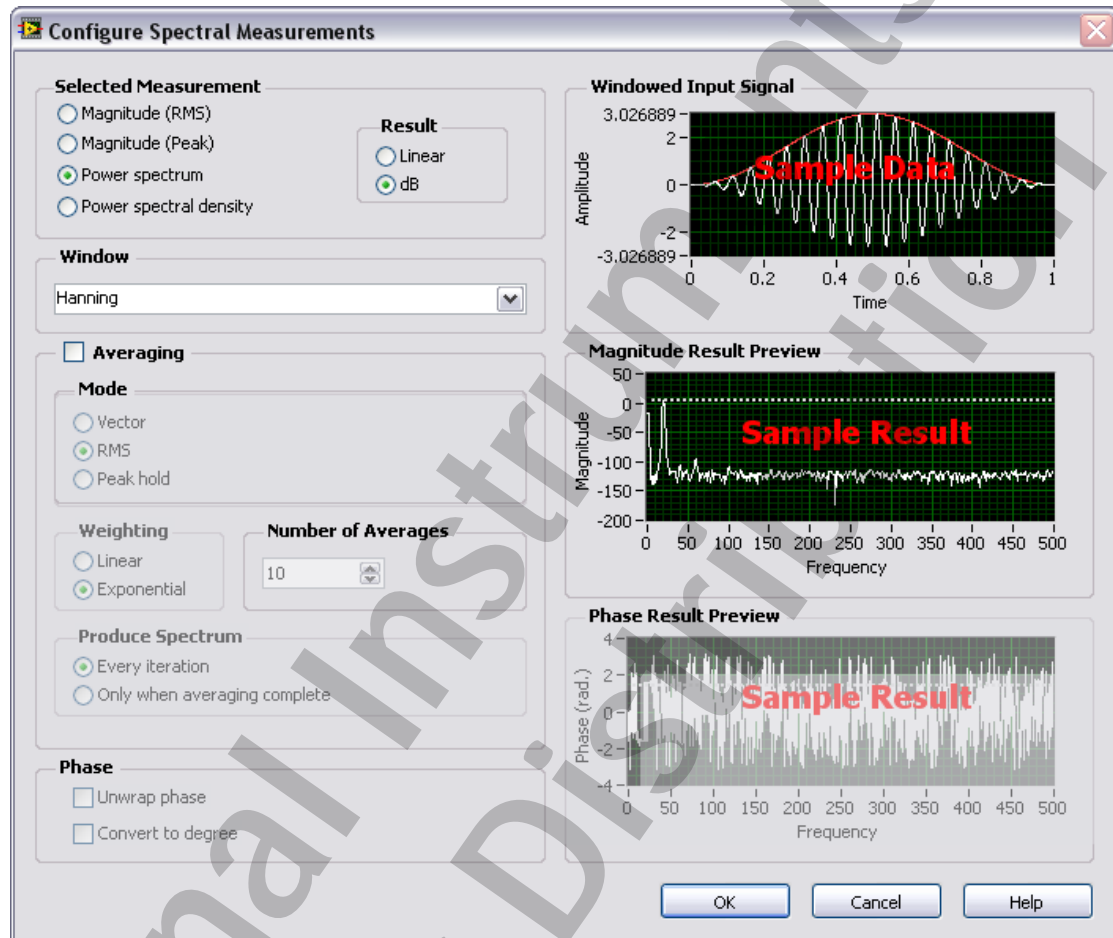

Figure A-8. Configure Spectral Measurements Dialog
- In the **Configure Spectral Measurements** dialog box, configure the settings as shown in Figure A-8.